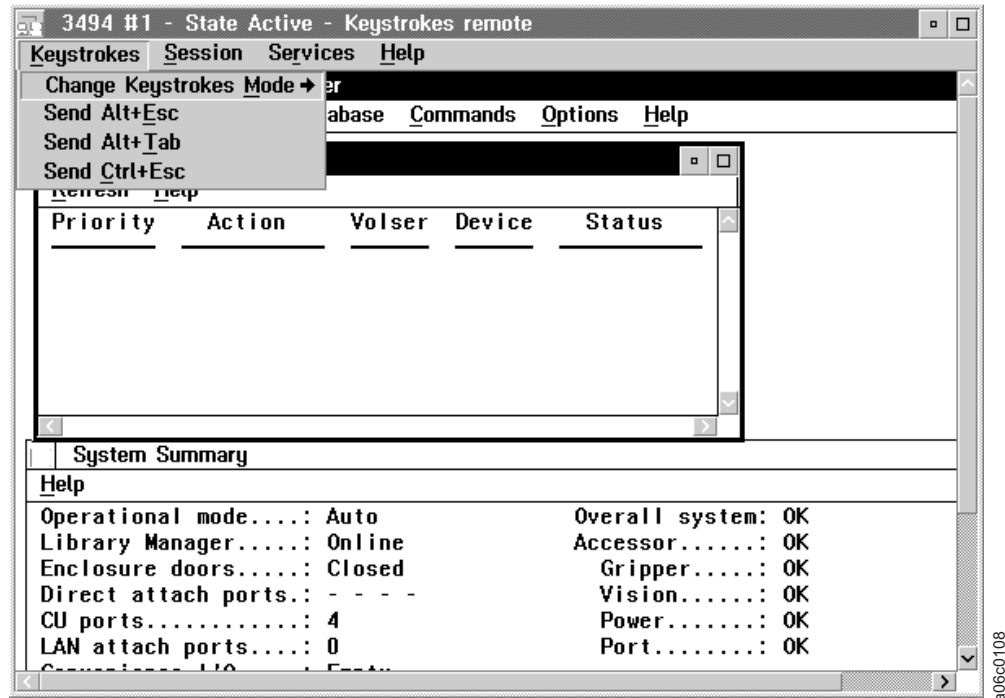

Figure 235. Remote Library Manager Console Window with Keystrokes Menu
The Keystrokes mode, displayed on the title bar of the remote Library Manager console session window, determines whether the remote Library Manager console’s keyboard input and pointing device movements affect the remote Library Manager console or the Library Manager. The remote Library Manager console starts with *State Active* and *Keystrokes remote* displayed in the title bar (Figure 235 on page 351).
You can send operating system hot key combinations to the Library Manager from the Keystrokes menu (Figure 235).
Figure 235 shows the remote Library Manager console window with a view of the Library Manager’s display during an active session. The remote Library Manager console user is working in *Keystrokes remote* mode.
1. Select the **Send Alt + Esc** option on the Keystrokes menu on the remote Library Manager console session window (Figure 235 on page 351).
1. Select the **Send Alt + Tab** option on the Keystrokes menu on the remote Library Manager console session window (Figure 235 on page 351).
1. Select the **Send Ctrl + Esc** option on the Keystrokes menu in the remote Library Manager console session window (Figure 235 on page 351).